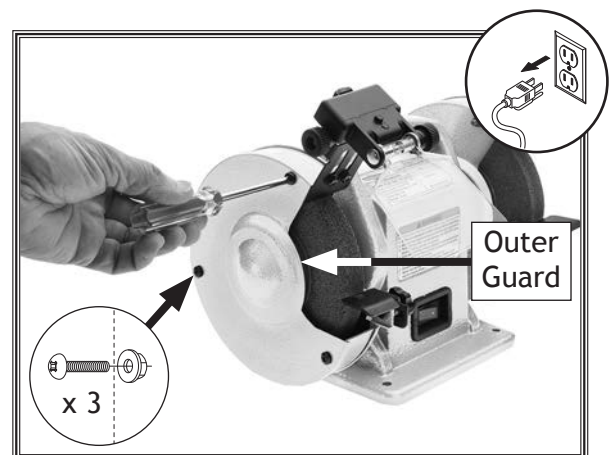

Figure 17. Location of outer guard hardware that must be removed when removing wheel.
2. Remove outer guard by removing (3) Phillips head screws and (3) flange nuts (see **Figure 17**).